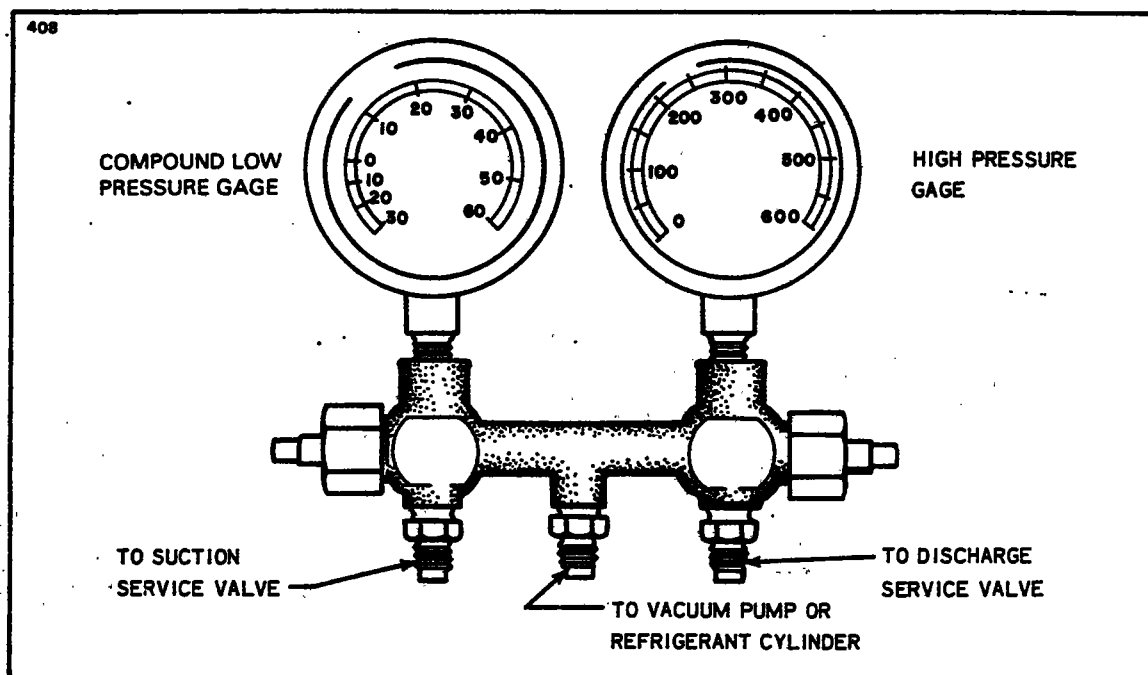

Figure 14-3. Test Gauge and Manifold Set
**14-8. TEST GAUGE AND MANIFOLD SET.** The proper testing and diagnosis of the air conditioning system require that a manifold gauge set be attached into the system. This set consists of two gauges mounted to a manifold. One gauge is a high pressure gauge used in the discharge side of the system. The other is a low pressure gauge used in the suction side of the system. The manifold is a device having fittings for both gauges and connection hoses with provisions for controlling the flow of refrigerant through the manifold. See Figures 14-3 and 14-4.
Cracking the hand valve, in the counterclockwise direction, opens the system to the middle service port of the manifold set. This is desirable only when it is necessary to let refrigerant out or into the system. Refer to Figures 14-3 and 14-4.
- c. The high and low manifold hand valves should be in the closed position. (Refer to Figures 14-3 and 14-4.)